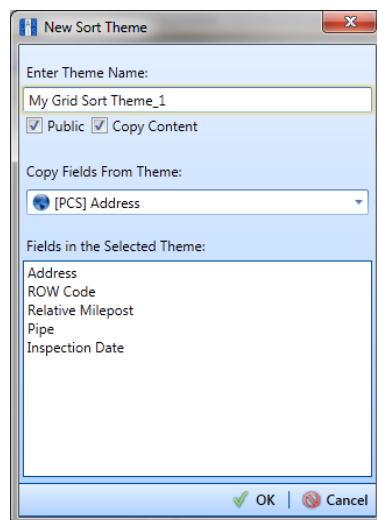

Figure 7-87. New Sort Theme
- 6 Click the **+** **Add** button to open the *New Sort Theme* dialog box (Figure 7-87).